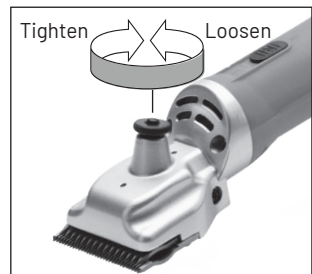

Fig. 1
2. To adjust the shearing blades, tighten the tensioning nut (2) until the first resistance is felt (fig. 1).